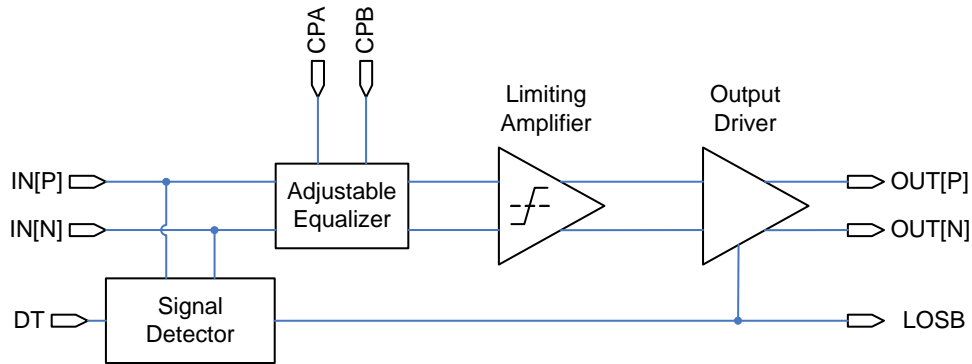

FIGURE 4. FUNCTIONAL BLOCK DIAGRAM OF THE ISL36111
The ISL36111 is an advanced lane-extender for high-speed interconnects. A functional diagram of ISL36111 is shown in Figure 4. In addition to a robust equalization filter to compensate for channel loss and restore signal fidelity, the ISL36111 contains unique integrated features to preserve special signaling protocols typically broken by other equalizers. The signal detect function is used to mute the channel output when the input signal falls below the level determined by the Detection Threshold (DT) pin voltage. This function is intended to preserve periods of line silence (“DC idle”). Furthermore, the output of the Signal Detect/DT comparator is used as a loss of signal (LOS) indicator to indicate the absence of a received signal.
As illustrated in Figure 4, the core of the high-speed signal path in the ISL36111 is a sophisticated equalizer followed by a limiting amplifier. The equalizer compensates for skin loss, dielectric loss, and impedance discontinuities in the transmission channel. The equalizer is followed by a limiting amplification stage that provides a clean output signal with full amplitude swing and fast rise-fall times for reliable signal decoding in a subsequent receiver.